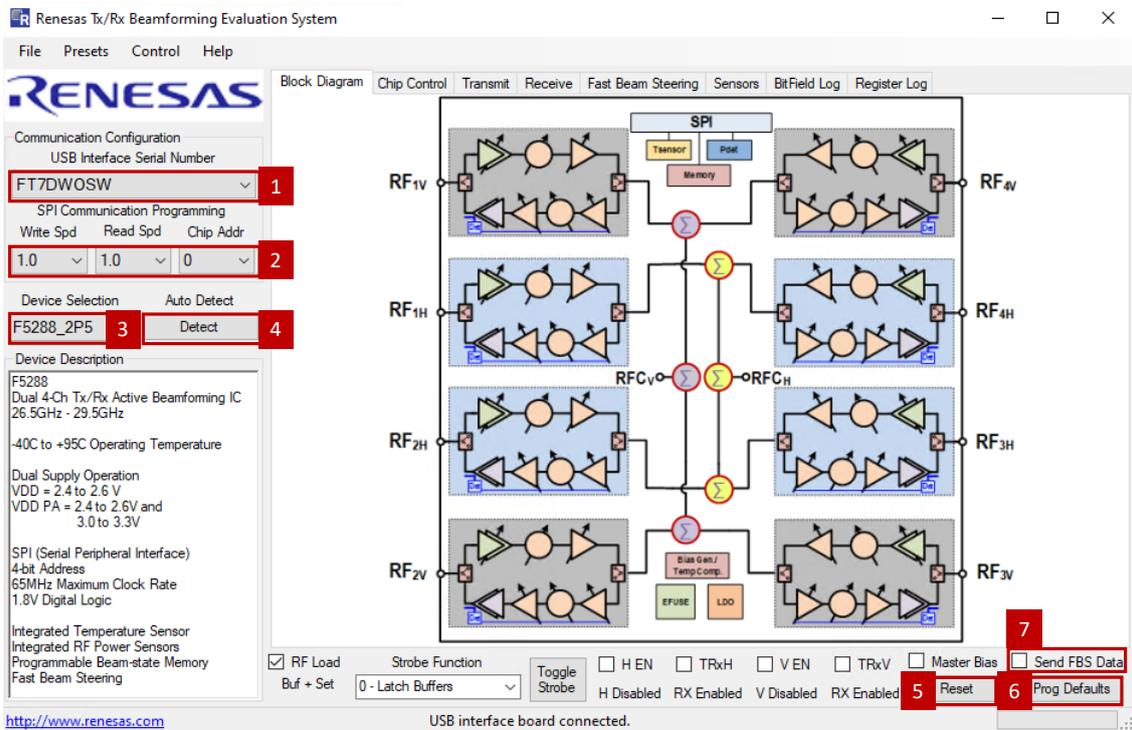
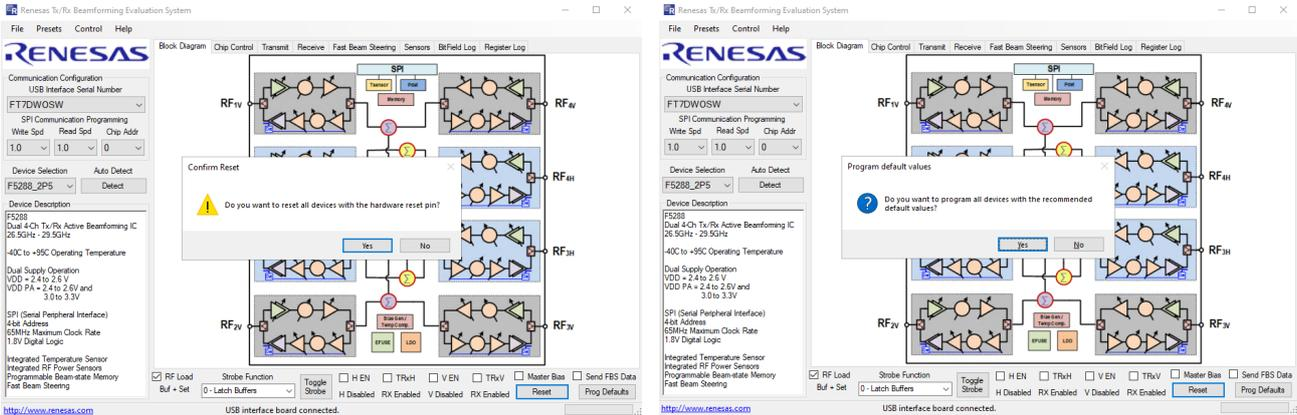
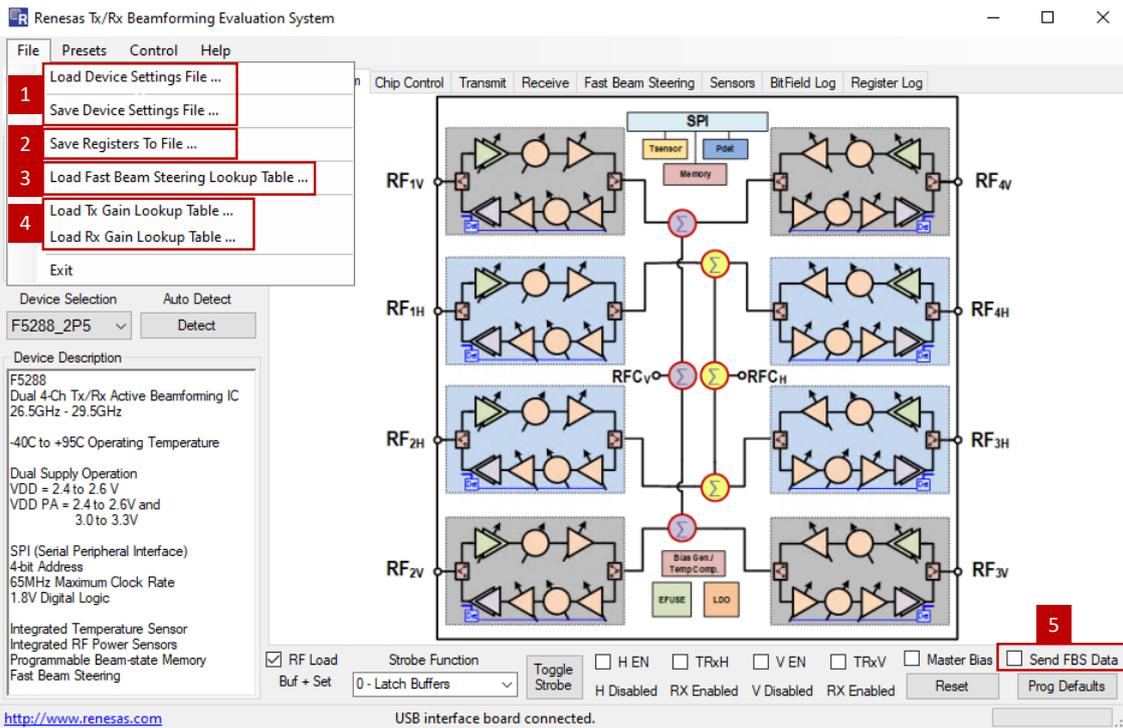

Figure 5. Application Control Panel at Start-up
Figure 6. Toggle Reset Sequence
Figure 7. File Menu
1. Open the application through the Windows Start menu or click on the application icon if saved on the desktop. The application appears as shown in Figure 5. The USB Interface Serial Number (item 1 in Figure 5) should be auto-detected if the FT2232HL digital interface board is connected and recognized.
- a. Select write speed, read speed, and chip address (see item 2 in Figure 5), then click **Detect** (see item 4 in Figure 5) to start the communication with the device.
- b. Select the device from the **Device Selection** drop-down menu (see item 3 in Figure 5) if not properly auto-detected.
2. The device can then be reset and programmed by clicking **Reset** button (see item 5 in Figure 5) and selecting **Yes** twice in sequence when prompted as shown in Figure 6. The **Reset** button will perform a hardware reset and ask whether the user would like to program the device with the recommended default
values. The GUI settings will be in sync with the hardware settings. Users can also program the device with the default recommended values at any given time by clicking **Prog Defaults** button (see item 6 in Figure 5).
- To use the fast beam steering (FBS) lookup table (LUT) feature, the **Send FBS Data** checkbox (see item 7 in Figure 5) must also be selected before programming the device. An FBS LUT data can be loaded by selecting **Load Fast Beam Steering Lookup Table** in the File menu (see item 3 in Figure 7). A default FBS LUT file is provided with the EVS software as an example.
- Device settings at any given time can be saved to an XML file and loaded back to the EVS software by selecting corresponding options in the File menu (see item 1 in Figure 7). Item 2 in Figure 7 will save all register offset addresses and values (in hexadecimal format) to a CSV file.
- For optimal RMS gain error, VGA gain attenuation for each TX/RX channel can be controlled using recommended LUTs, which will be automatically loaded by default when the device is programmed with recommended settings. Any modified TX/RX gain LUT can be loaded by selecting corresponding options in the File menu (see item 4 in Figure 7).